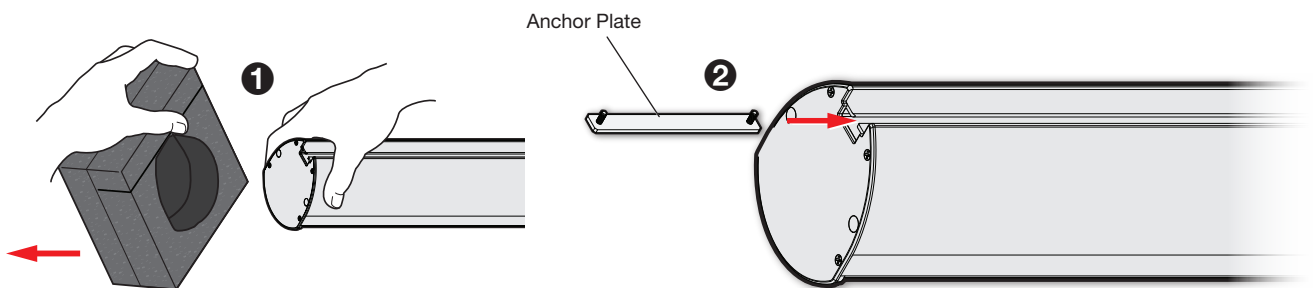

Figure 12. Slide Anchor Plate into T-slot
2. Brace the top of the speaker with your hand as you remove the top-end foam piece (see figure 12, ①). Slide the Anchor Plate into the T-slot (②), and place the foam piece back on the speaker.